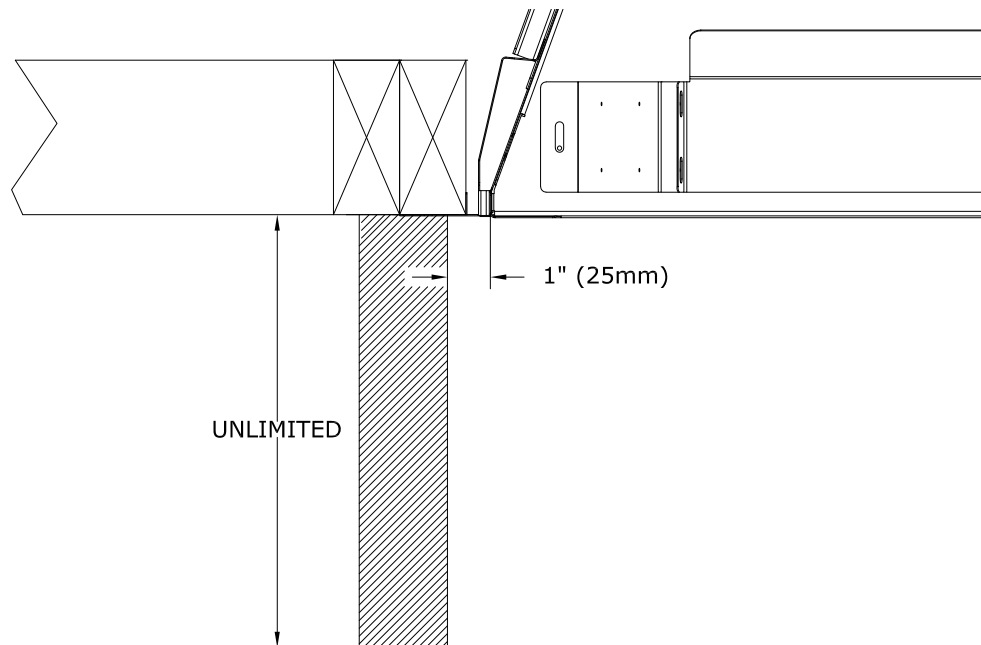

Figure 5.4 - Combustible Sidewall Projection
- **Mantel Leg:** Follow "Side Combustible Clearance" below. See Figure 5.4.
- **Combustible Sidewall Clearance:** the adjacent sidewall projection is unlimited and starts at 1" (25mm) from the side of the fireplace. See Figure 5.4.